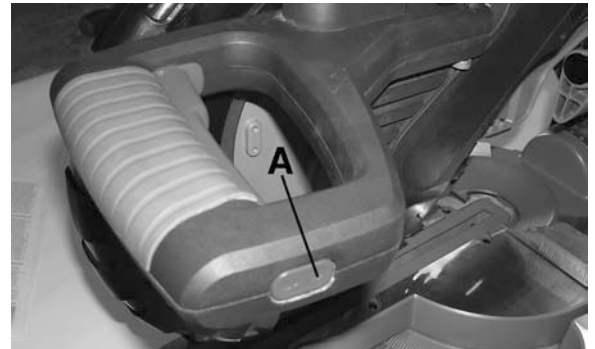

Figure 16
The twin laser guide system is controlled by the laser guide push button switch (A) Fig.16 and will only turn on when the miter saw is plugged into a power source.